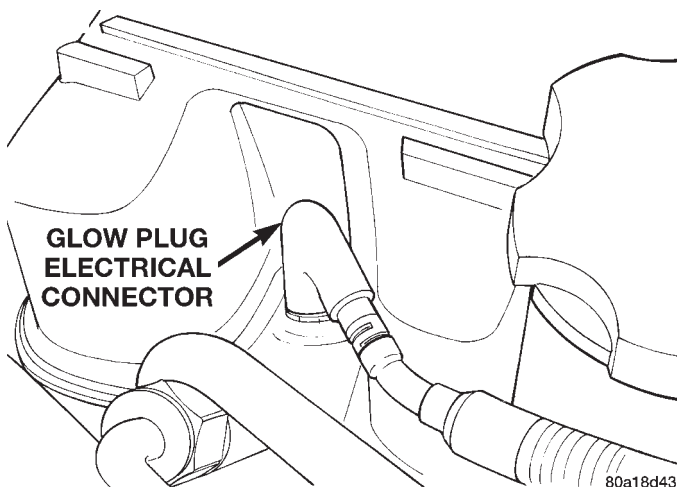

Fig. 22 Glow Plug Electrical Connector
- (1) Disconnect the negative battery cable at the battery.
- (2) Clean the area around the glow plug with compressed air before removal.
- (3) Disconnect electrical connector (Fig. 22) at glow plug.